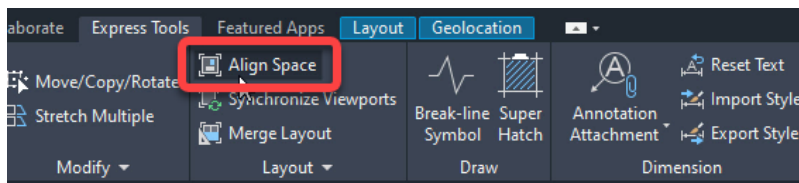

Figure 33: Choosing the Align Space command from the Express Ribbon Tab.
9. Choose Align Space from the Layout panel of the Express Ribbon tab shown in Figure 33. Select a corner of your viewport and a corresponding corner of the rectangle in Model Space.